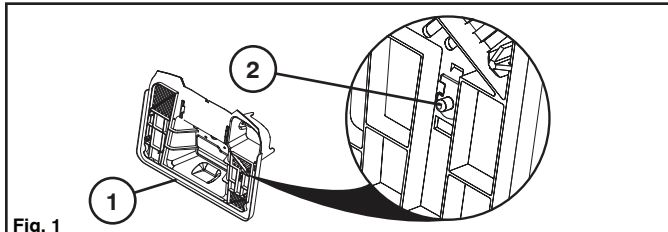

Fig. 1
- Standing behind the tractor with the bagger removed from the backplate (1), identify the bag full switch (2) area. (See Fig 1)